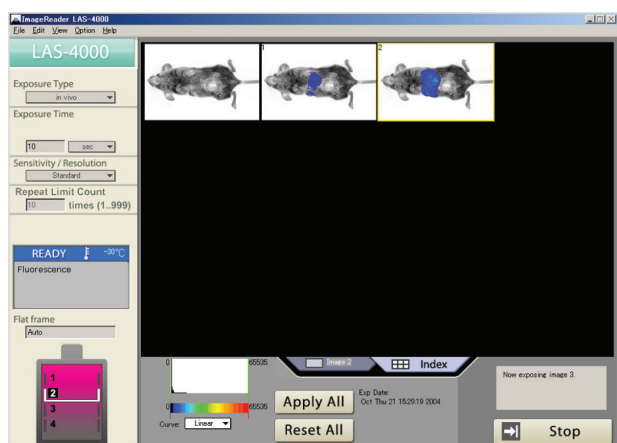

Fig.2
- 2) Click the “Method/Tray Position” button (2), select “Fluorescence” as the “Method”, and select the “Tray Position” suitable for the sample size.
- 3) Enter the Exposure time (3) and the “Repeat Limit Count” to set the total number of images to be acquired.
- 4) Click the “Focus” button (4) to focus in on the tumor.
- 5) Click the “Start” button (5) to start the imaging process.
- 6) The superimposed brightfield and fluorescent images are shown over time (Fig.2).
Fig.2 The superimposed images are shown over the entire exposure period so an optimal image can be obtained even though the appropriate exposure time is unknown.